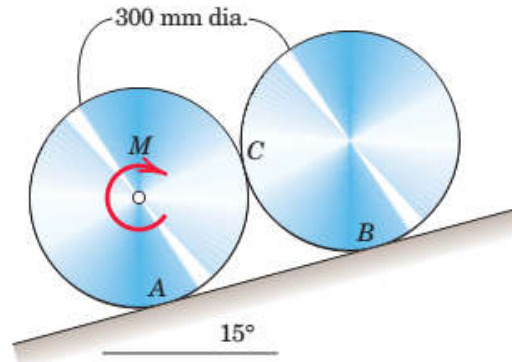

Fig. 3
2. Calculate the couple M applied to the lower of the two 20-kg cylinders which will allow them to roll slowly down the incline as shown in below Fig.3. The coefficients of static and kinetic friction for all contacting surfaces are $\mu_s = 0.60$ and $\mu_k = 0.50$. [12]